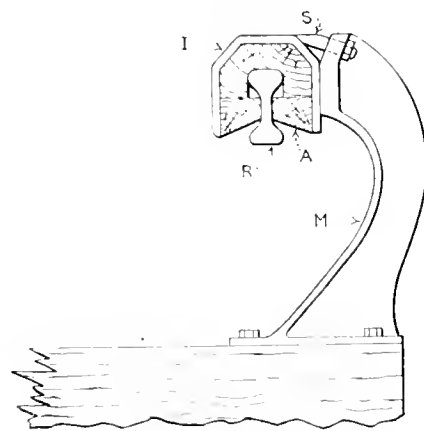

FIG. 2. THIRD RAIL CONSTRUCTION IN UNDER RUNNING.
A.—On the long ties are bolted the malleable iron brackets M, Fig. 2. Each of these brackets is provided with a clamping strap S, which clamps a split insulator I around the third rail R, and holds this rail securely and at the proper height above the tie. Between each of the insulators is usually placed strips of wood, shown in sectional pieces A, these pieces of wood serving protection from contact with the rail. The top of the third rail shoe bears against the underside of the third rail R.